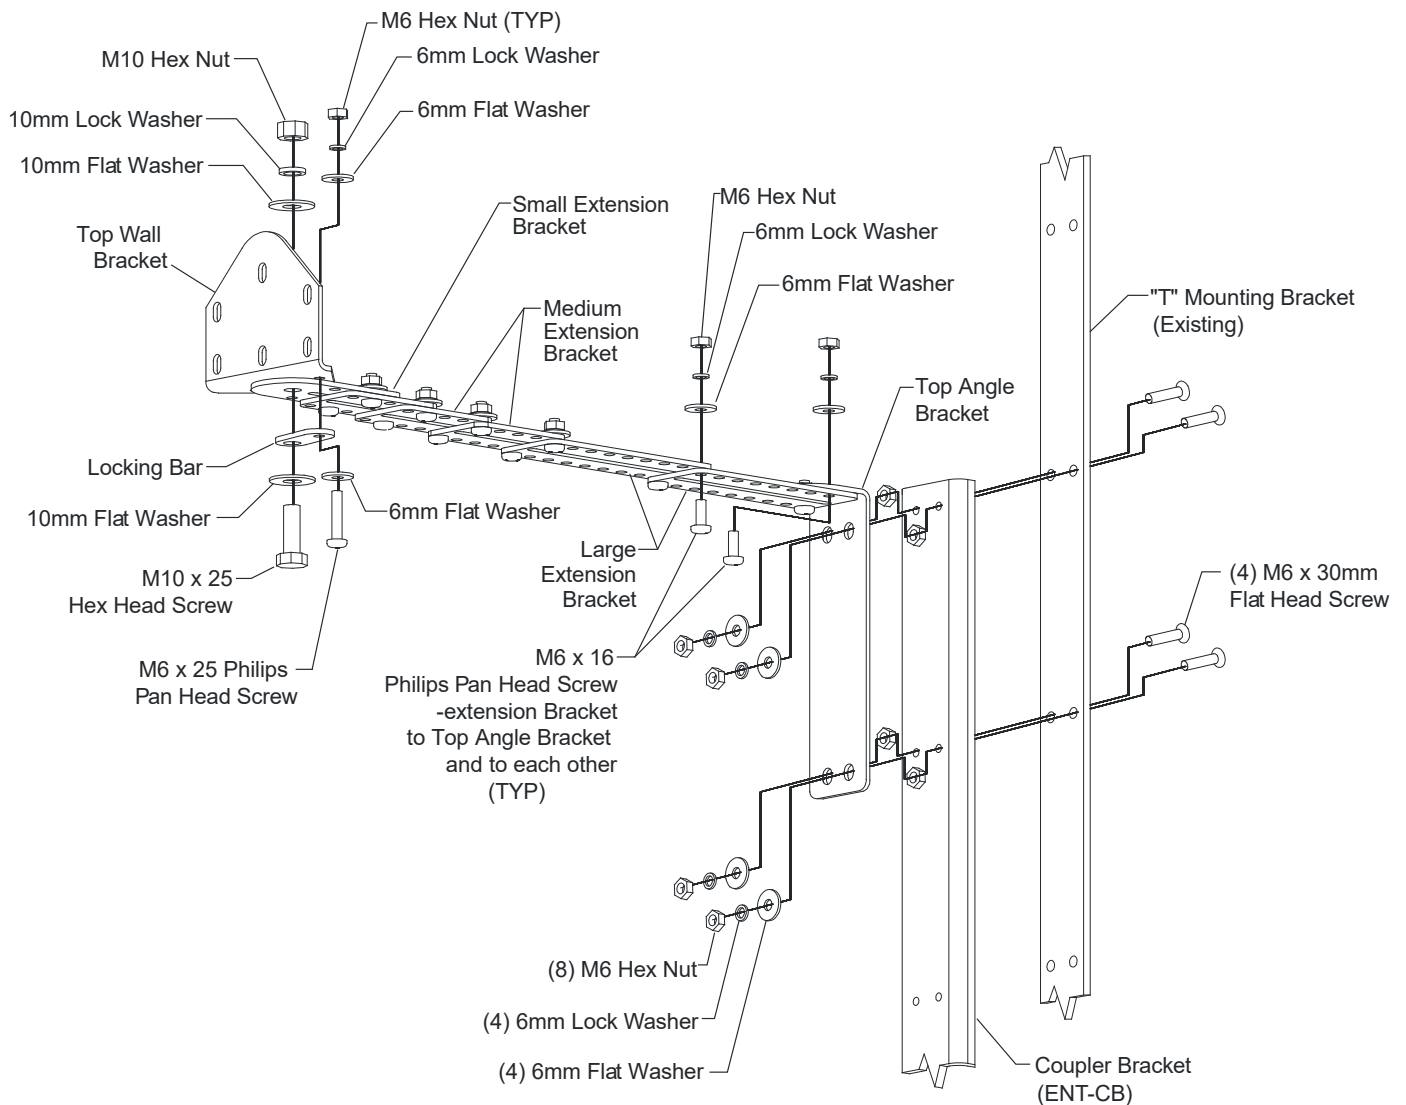

Figure 2. Top Assembly Detail
3. Attach the Top Angle Bracket to the four mounting studs using the M6 flat washers, lock washers and nuts shown in Figure 2. Tighten these nuts securely.